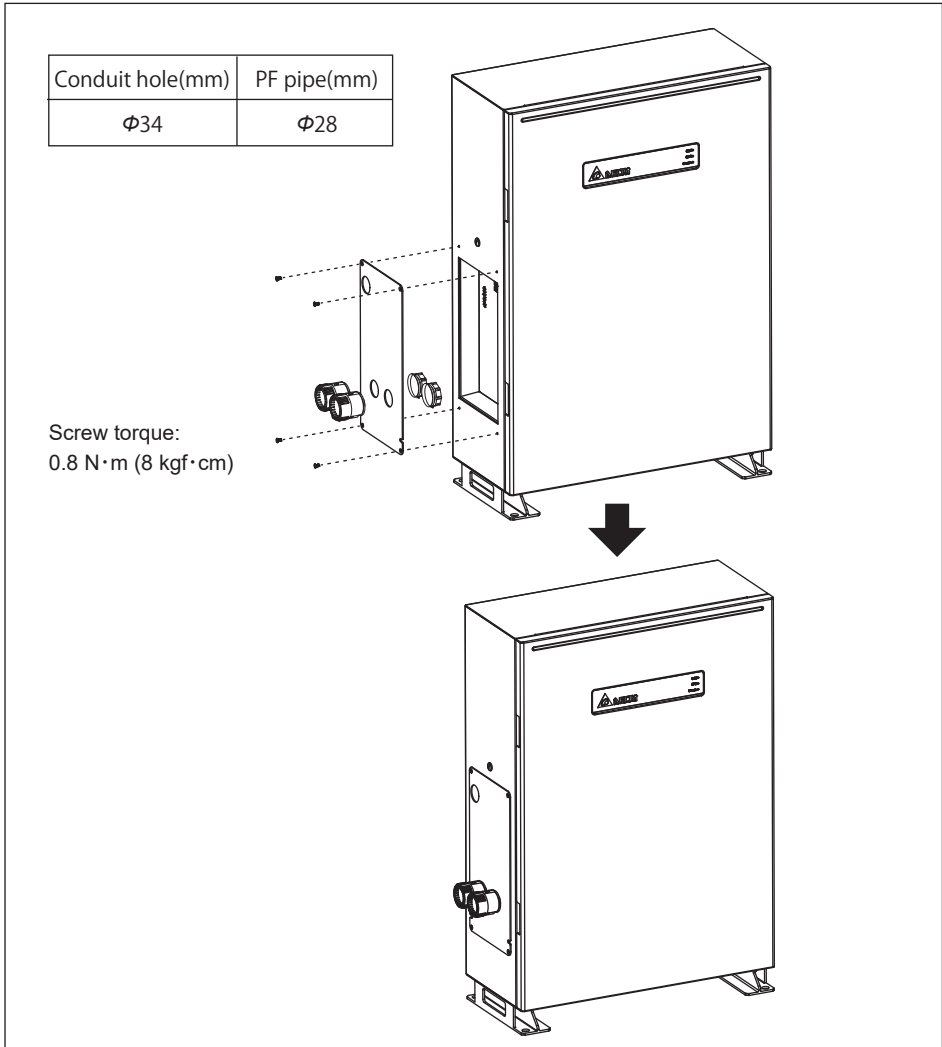

Figure 3-9 : Install the wiring cover
- Recommend screw type/ PF pipe/ conduit are shown in **figure 3-9**.